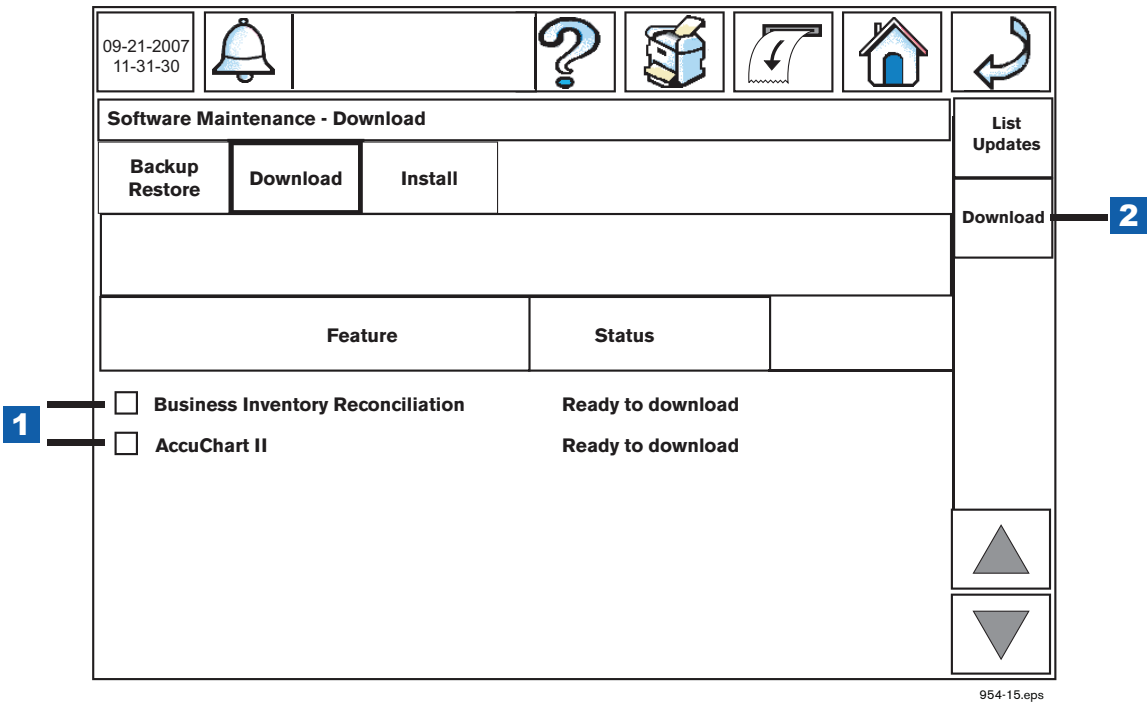

Figure 10. Downloading Software Features from the USB Adapter
3. When the Software Maintenance - Backup Restore screen displays touch the Download tab. Touch the check boxes beside the feature(s) you wish to download to the console from the i-button (item 1 in Figure 10).
4. Once you have selected the desired features to download, touch the Download button to begin the download process (item 2 in Figure 10).
LEGEND FOR NUMBERED BOXES IN Figure 10